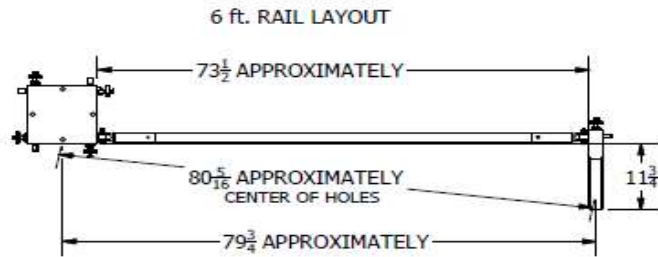

Fig. 6a
3. Align each Upright with the center frame as layouts below (6' or 8'). Measure all dimensions as shown below before proceeding to the next step (see Fig. 6a & 6b).